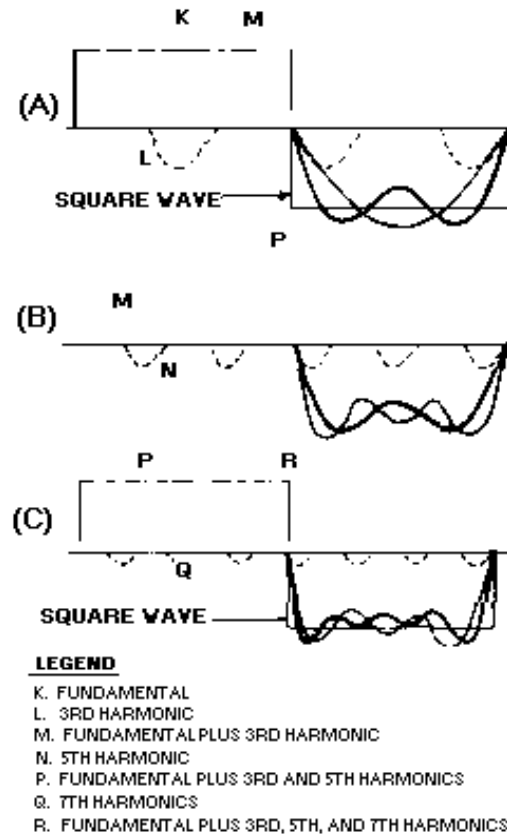

Figure 4-25.—Harmonic composition of a square wave.
View (A) of figure 4-25 compares a square wave with sine waves. Sine wave K is the same frequency as the square wave (its fundamental frequency). If another sine wave (L) of smaller amplitude but three times the frequency (referred to as the third harmonic) is added to sine wave K, curve M is produced. The addition of these two waveforms is accomplished by adding the instantaneous values of both sine waves algebraically. Curve M is called the resultant. Notice that curve M begins to assume the shape of a square wave. Curve M is shown again in view (B).